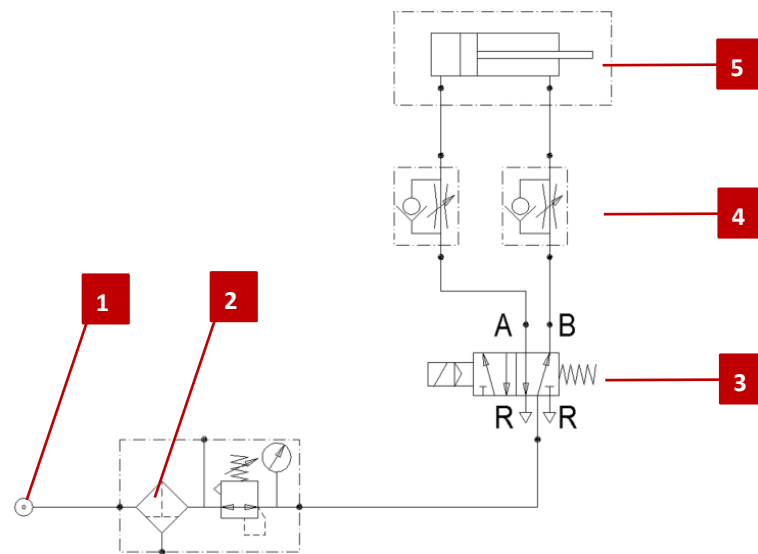
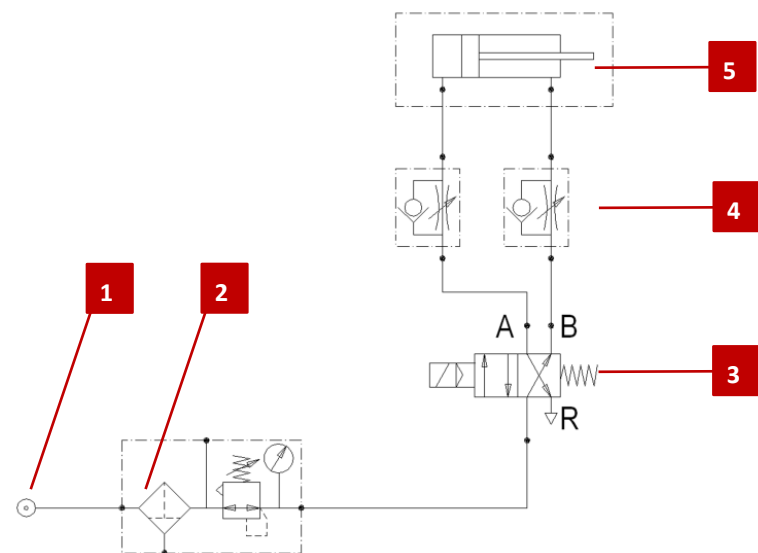

Fig. 14 Pneumatic circuit diagram compact slide (5/2)
Fig. 15 Pneumatic circuit diagram compact slide (4/2)
1. Screw the initiator (Fig. 15, 1) with the clamping sleeve (Fig. 15, 2) into the receptacle A and B (Fig. 14).
2. Adjust and tighten the initiator (Fig. 15, 1) together with the shock absorber (Fig. 15, 3).